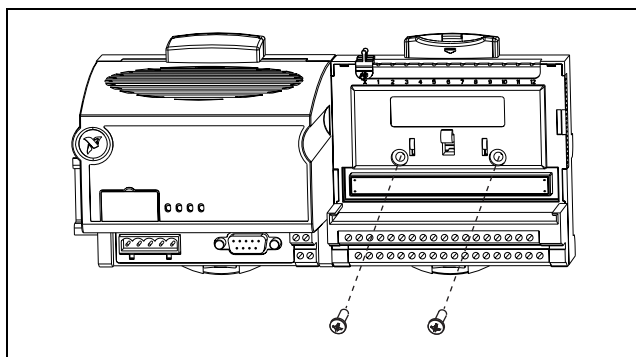

Figure 5. Mounting the Terminal Base
2. When you have located and drilled the mounting holes, mount the terminal base as shown in Figure 5.